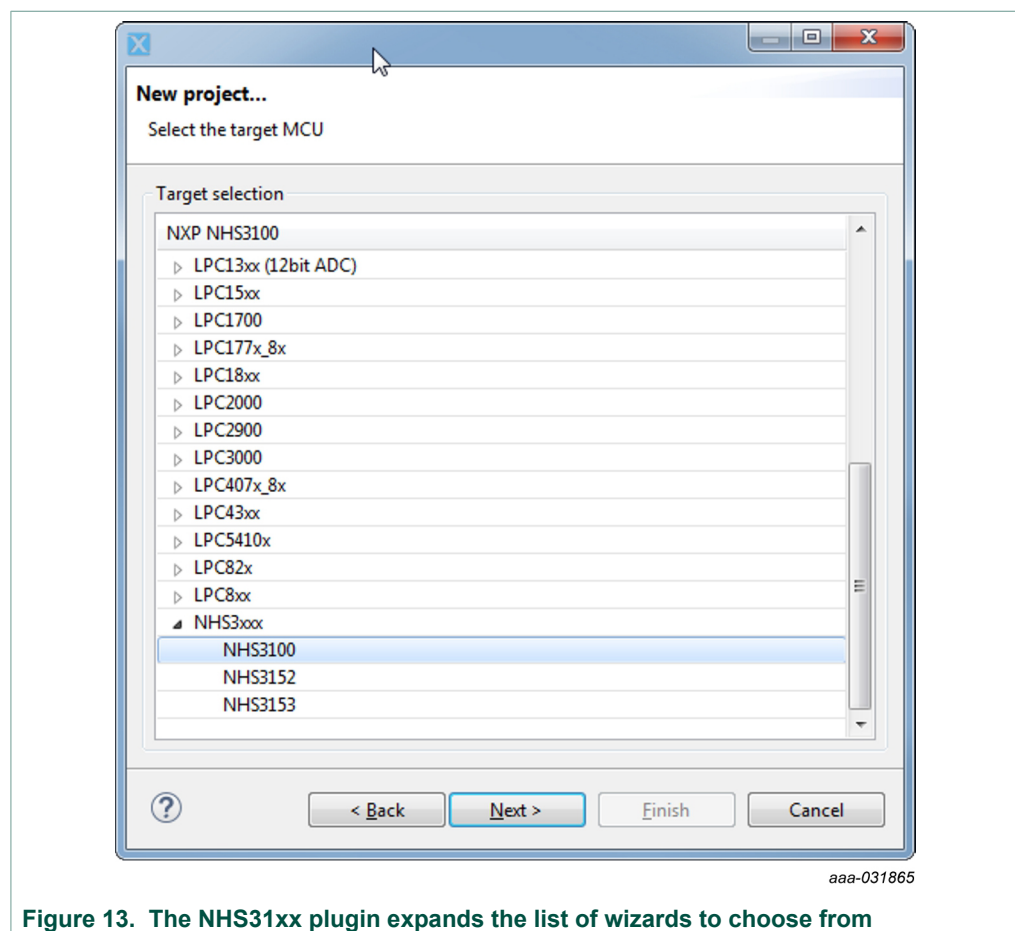

Figure 13. The NHS31xx plugin expands the list of wizards to choose from
4. Select the correct NHS31xx IC from the list (see Figure 13).